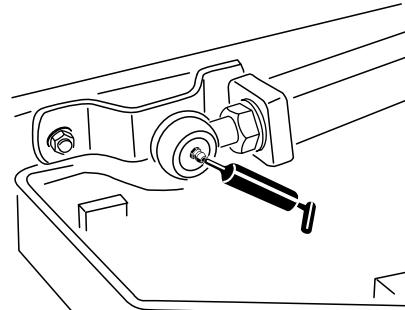

Figure 44
- 2 lift-arm ball joints (Figure 44)